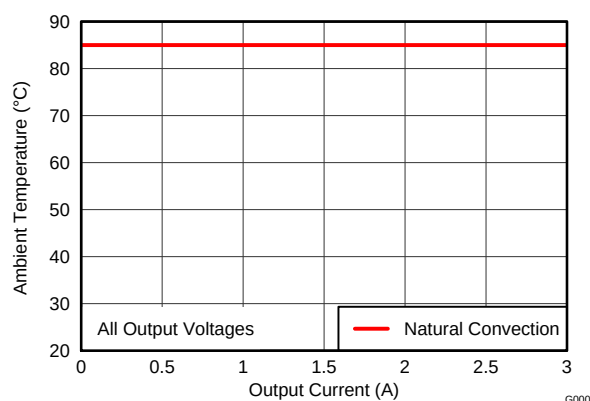

Figure 9. Safe Operating Area
- (2) The temperature derating curves represent the conditions at which internal components are at or below the manufacturer's maximum operating temperatures. Derating limits apply to devices soldered directly to a 100 mm × 100 mm double-sided PCB with 1 oz. copper. Applies to Figure 9.
**TYPICAL CHARACTERISTICS (PVIN = 12 V, VIN = 5 V)(1) (2)**